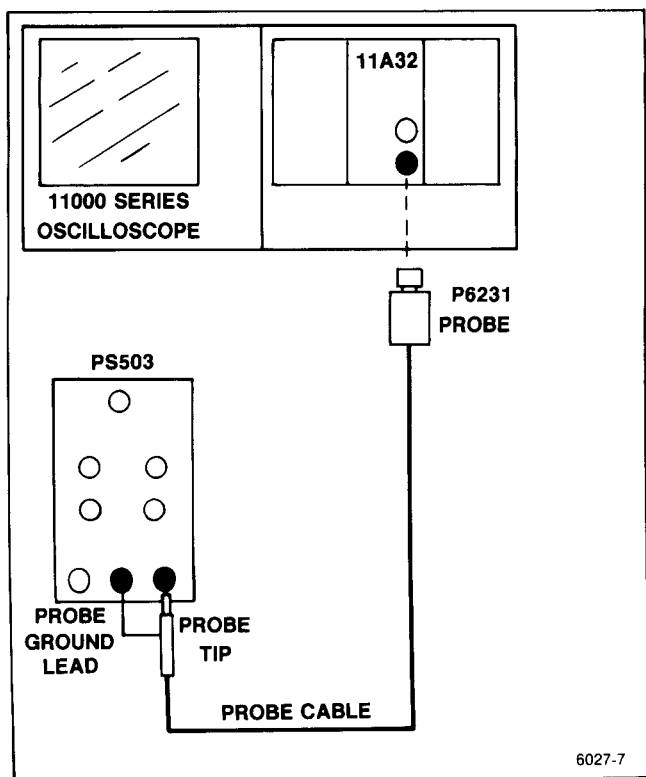

Figure 3-1. Offset check setup.
l. Connect the probe ground, via a probe ground lead, to the voltage source (PS503) common output. Touch the the probe input to the + output (refer to Figure 3-1).